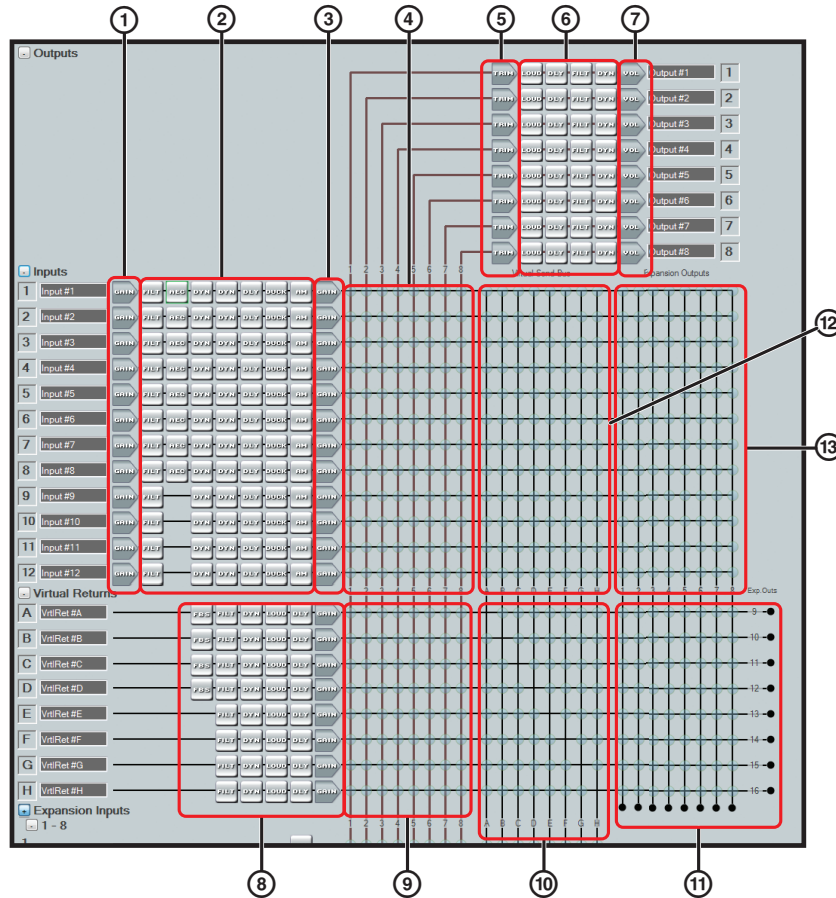

Figure 18. Control Blocks and Processor Chains
The signal chain varies depending on whether it is in the input, output, virtual bus, or EXP bus stage. Each of the three types of signal processing channels; Input (①/②/③), Output (④/⑤/⑥), and Virtual (⑦) shown in figure 18 above, consist of a series of two basic types of control blocks specific to that chain: level control (gain ①/③, trim ②, and volume control ④), and signal processors (frequency filters, feedback suppression, dynamics, delay, ducking, AEC, AM, and loudness). Both types of control blocks are always present in the chains. Gain controls default to unmuted and processor blocks are bypassed upon insertion.